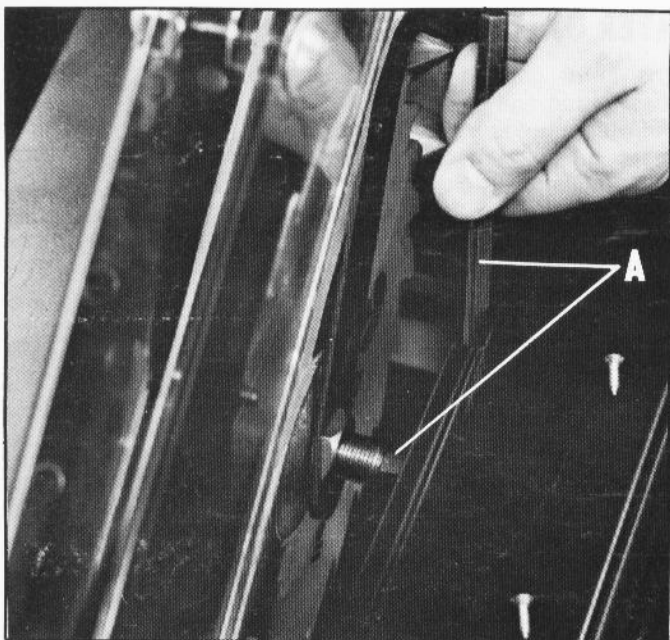

Fig. 24
3. Place the hex wrench (A) in the hex slot in the end of the arbor and, with a wrench, turn the arbor nut toward you, as shown in Fig. 24.